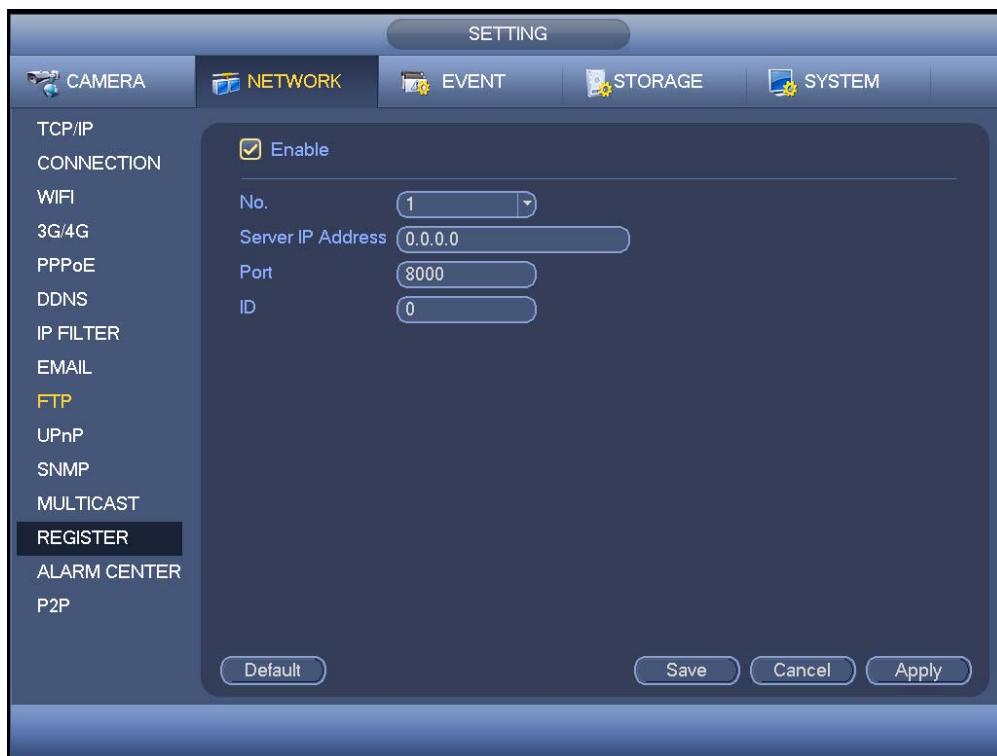

Figure 4-116
1) From main menu->Setting->Network->Register, the setup interface is shown as in Figure 4-116.
3) Now you can add device. Please do not input default port number such as the TCP port in the mapping port number. The device ID here shall be the same with the ID you input in Figure 4-116. Click Add button to complete the setup.